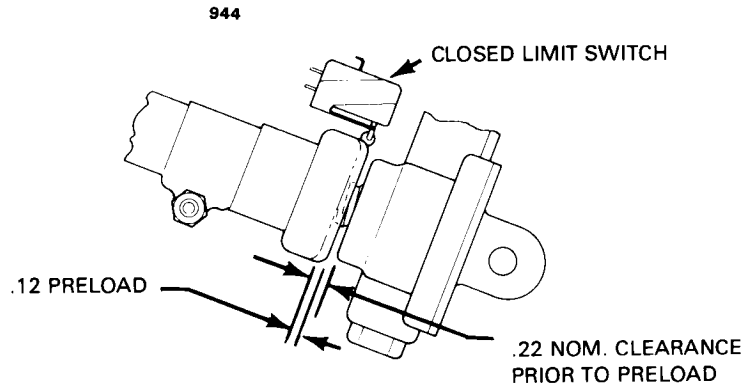

Figure 21-17. Condenser Air Scoop Installation
6. Seal all around forward cover panel (and aft cover panel if removed) with Permagum Bead No. 576 purchased from Prestolite Engineering Company. (See Figure 21-17.)
The actuator is on a bracket mounted between two bulkheads in the tail cone. It is coupled to the condenser assembly through a bellcrank mounted to a bracket on the bulkhead aft of the condenser. The actuator travel is controlled by two limit switches. Both the up and down switches are located on the actuator. (Refer to Figure 21-17 for the switch locations.)
CONDENSER ASSEMBLY RIGGING INSTRUCTIONS. (Refer to Figure 21-17.)
It is necessary for the condenser door to fit flush with the fuselage skin, and with increased force along the forward edge. The following steps will help accomplish this requirement. (Refer to Figure 21-17.)
3. With the door fully closed adjust the "CLOSED" limit switch so that the actuator travels an additional .12 of an inch after the door is fully closed, this is necessary to preload the mechanism. (Refer to Figure 21-17.)